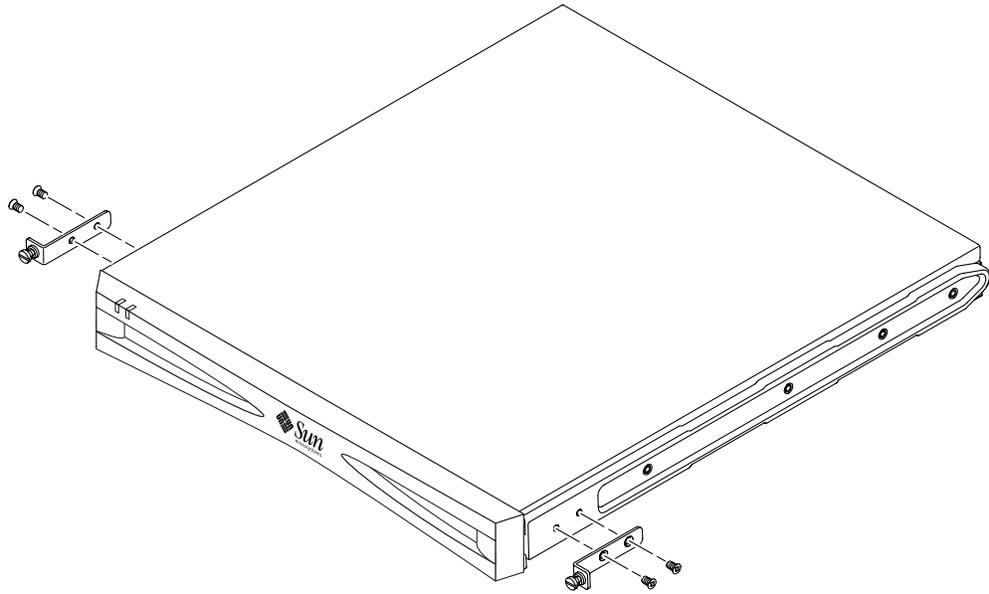

FIGURE 2-6 Attaching the Thumbscrew Brackets
1. **Attach the thumbscrew rack mounting brackets on either side of the system (see FIGURE 2-6).**